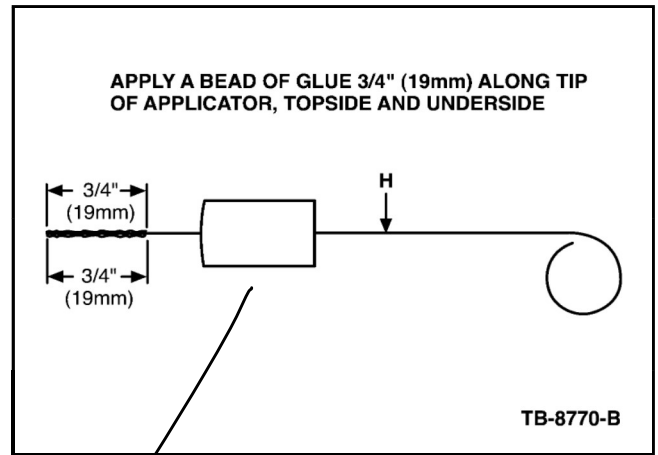

Figure 17 - Article 08-7-6
- Apply two 3/4" (19 mm) long stripes of Loctite® 638™ to opposite sides of a clean and dry applicator (H). Excessive amounts of Loctite® 638™ are being used if it drips off the applicator. (Figure 17)